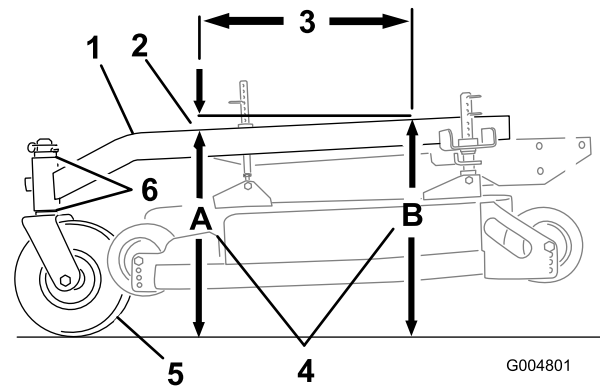

Figure 56
The carrier frame must have a pitch between 3 mm (1/8 inch) to 9 mm (3/8 inch) over the length of 61 cm (24 inches) on the carrier frame (Figure 56).
- Measure out 61 cm (24 inches) on the carrier frame (Figure 56).
- Measure carrier frame height at location **A** (Figure 56).
- Measure carrier frame height at location **B** (Figure 56).
- The height at location **A** must be an 3 mm to 10 mm (1/8 to 3/8 inch) lower than location **B** (Figure 56).
- If the carrier frame is not correct, move the caster spacers to make it an 3 mm to 10 mm (1/8 to 3/8 inch) pitch (Figure 56).